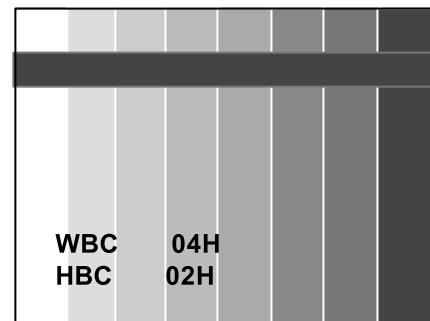

Fig.4-1
4. Press the number key, “10” on the jig remote controller once to display the SCREEN adjustment screen. (Fig. 4-1)